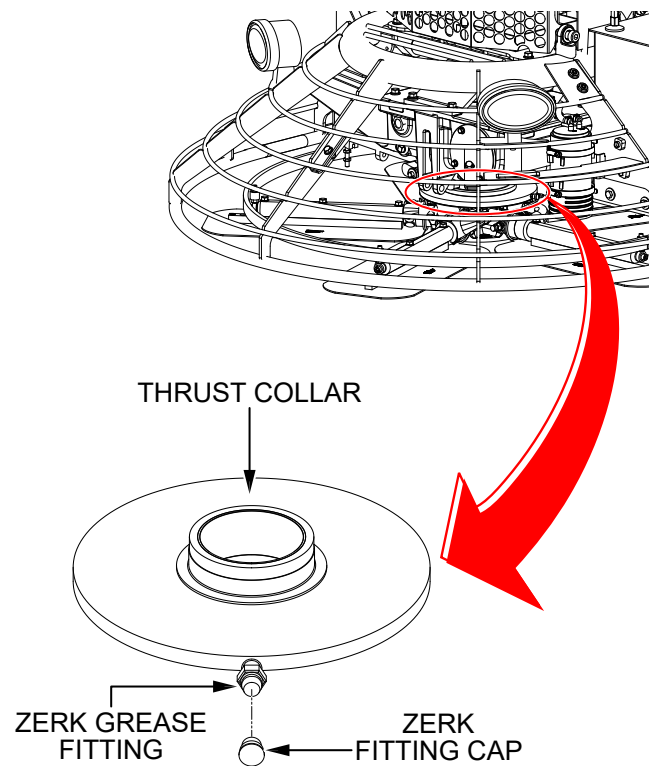

Figure 37. Thrust Collar Lubrication
1. Locate the Zerk grease fitting on either thrust collar (Figure 37). Remove the Zerk grease fitting cap and set it aside.